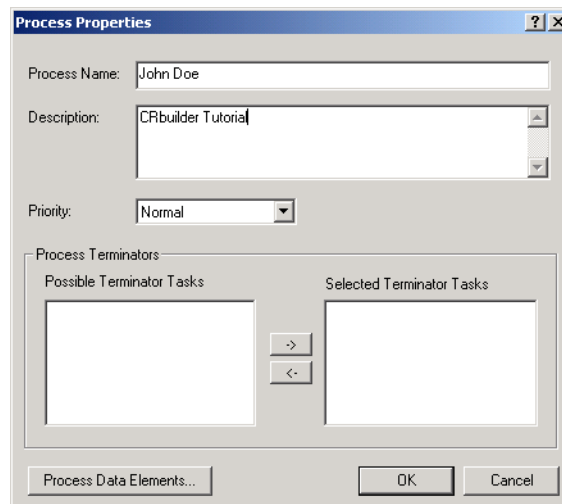

Figure 28-4. The Process Properties dialog with a Process Name and a description.
- ❶ Configure your new process by clicking on the **Properties** button on the toolbar. You will see the Process Properties dialog box like the one in Figure 28-4, below.
- ❷ Type your name in the Process Name field, e.g. John Doe .